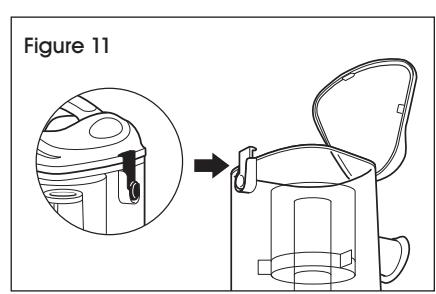

Figure 11
3. To remove collected debris from lint screen, press top release button and lift handle to open. Gently brush lint screen to clean. (See Figure 11)